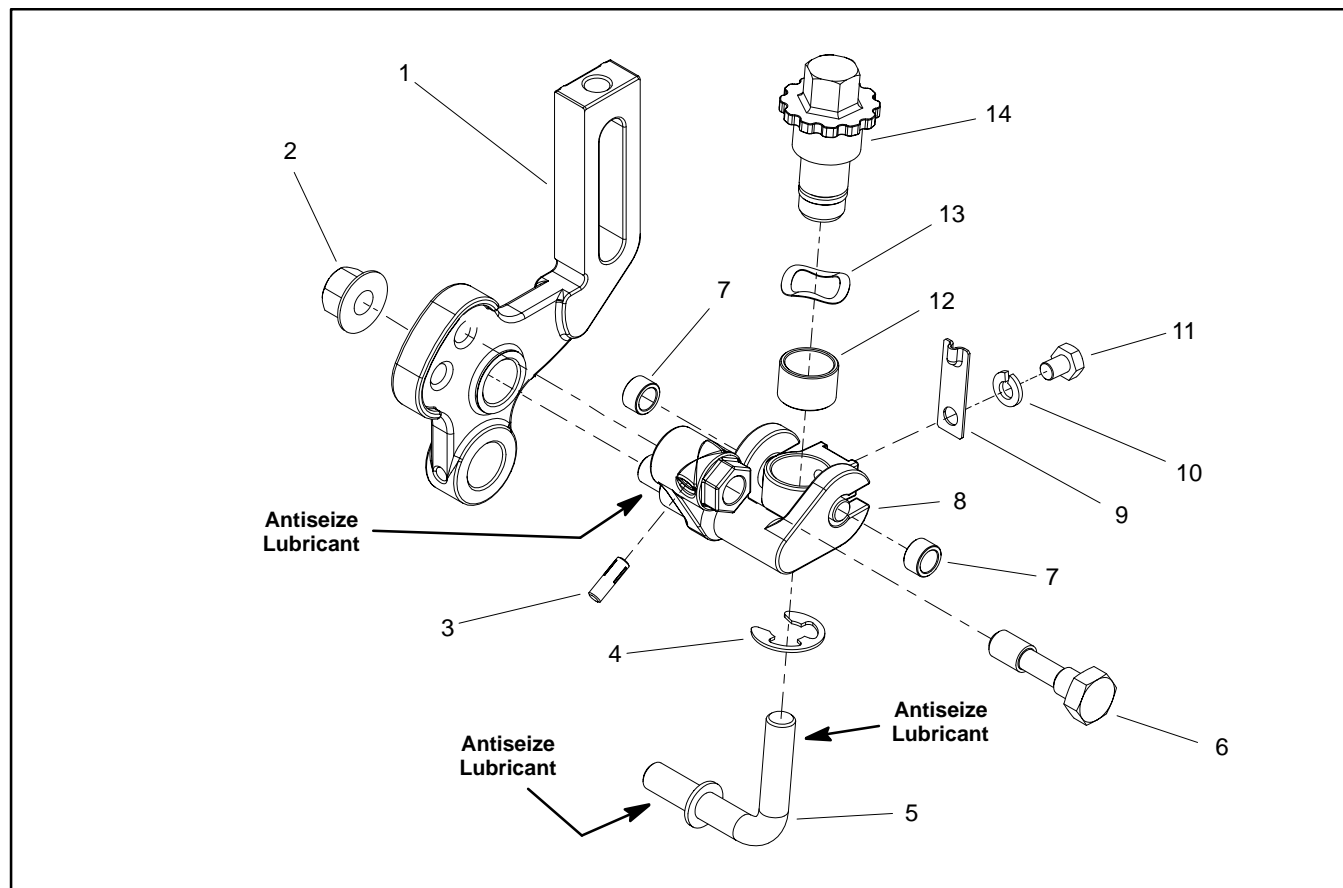

Figure 17
Disassembly (Fig. 17)
2. Disassemble groomer arm using Figure 17 as a guide.
NOTE: Right and left side HOC groomer arms and lift arm assemblies are different; other components shown in Figure 17 are the same on both sides of machine.
Assembly (Fig. 17)
1. Apply antiseize lubricant to threads of groomer lift rod (item 5) and lift arm assembly (item 8). Assemble groomer arm using Figure 17 as a guide.